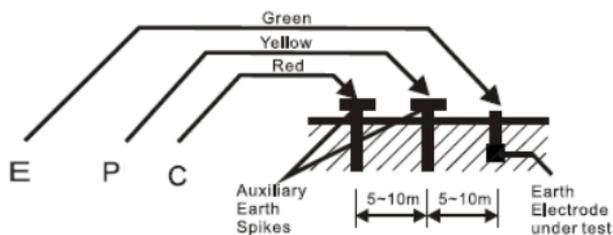

Fig.1
- (1) Connect green, yellow and red test leads to instrument terminals E, P and C with auxiliary earth spikes P1, C1 stuck into the earth “IN A STRAIGHT LINE “. (Fig.1)
- (2) Rotate the function switch to suitable range then press the pushbutton to test and take the reading.
- (6) Since measuring current is as low as 2 mA, the earth leakage breaker (ELCB) does not trip even if the earth side of the commercial power supply with an ELCB is used.
*\* Follow the proper connection such as Fig1.*